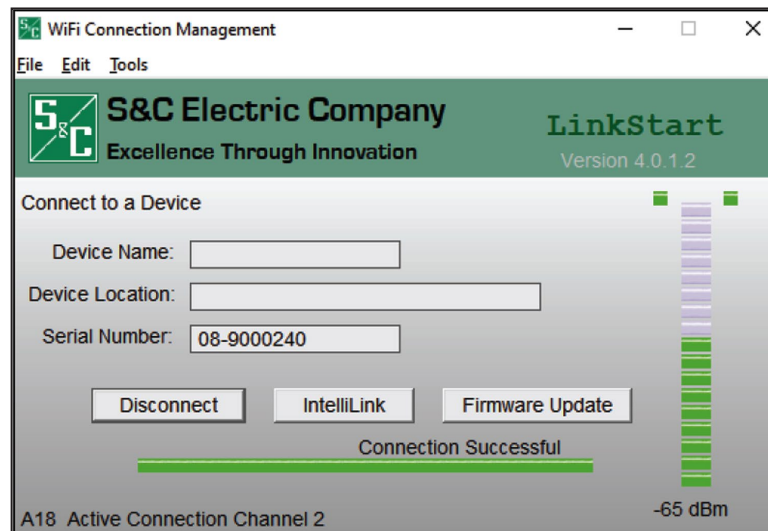

Figure 25. The connection successfully completed indication.
STEP 5. When the connection is successful, click on the Firmware Update button. See Figure 25.